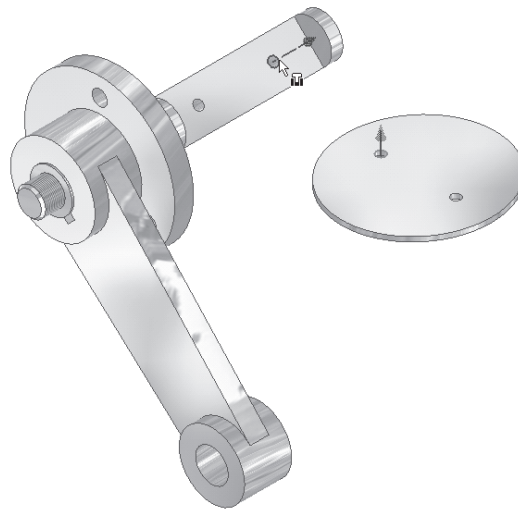

Figure 8-44 *Selecting the faces to apply the constraint*
7. Choose the **Insert** button and then select the circular edge of one of the holes on the top face of the Plate as the first face to apply the constraint, see Figure 8-44.
8. Select the circular edge of the right hole on the flat face of the Shaft as the second face to apply the constraint, see Figure 8-44. Choose the **Apply** button to apply the constraint.